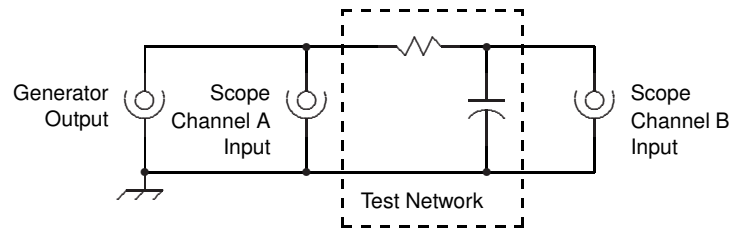
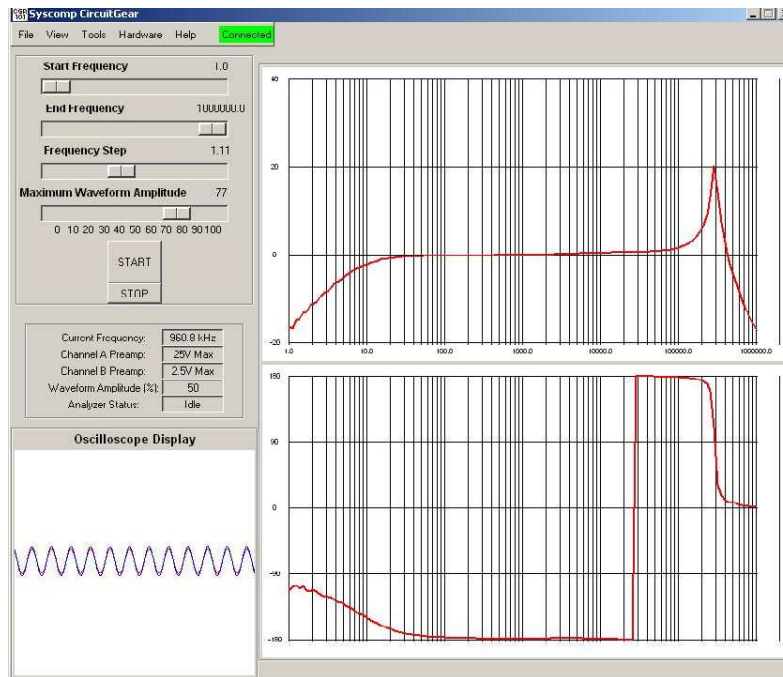

Figure 12: Network Analyser Wiring
Figure 13: Vector Network Analyser
Figure 13 shows a screen shot of a VNA plot of a single-pole RC lowpass filter. Figure 12 shows how the test circuit must be wired. Notice that there is no internal connection between the generator output and the channel A input. The instrument grounds are connected internally, so only one ground wire is required to the external circuit.
in place of the capacitor in figure 12. Choose the resistor to be larger than the maximum impedance of that component. Then, in effect, the device is driven by a constant current and the voltage across the device is proportional to its impedance.
The display of figure 13 is the amplitude and phase response of a small 1:1 audio transformer. The primary was driven by the generator and connected to Channel A. The secondary was connected to Channel B.
- The amplitude dynamic range of the VNA is in excess of 50db. The VNA automatically adjusts the input signal attenuators of the oscilloscope section to obtain the best possible signal-noise ratio without clipping. It also uses the full 10 bit range of the oscilloscope A/D converters. In the frequency response plot of figure 13, the amplitude and phase plots become erratic at high frequencies. This occurs because the output signal from the low pass filter is extremely small in that region.